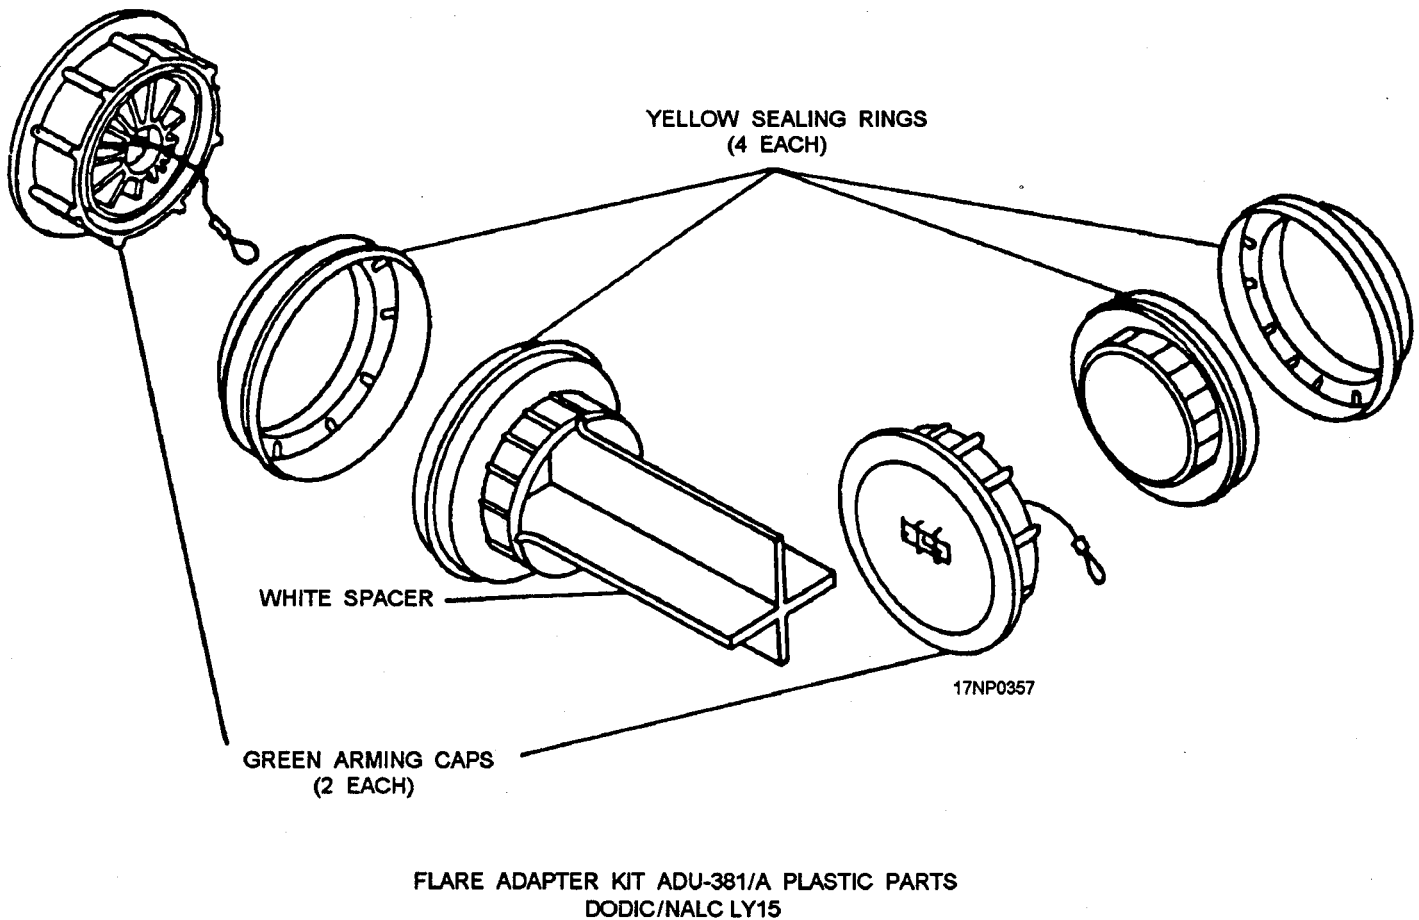

Figure 13-27.—Flare adapter kit.
3. Check the adapter kit (fig. 13-27) for two green arming caps with serviceable arming lanyards, one white two-piece spacer, and four yellow sealing rings.